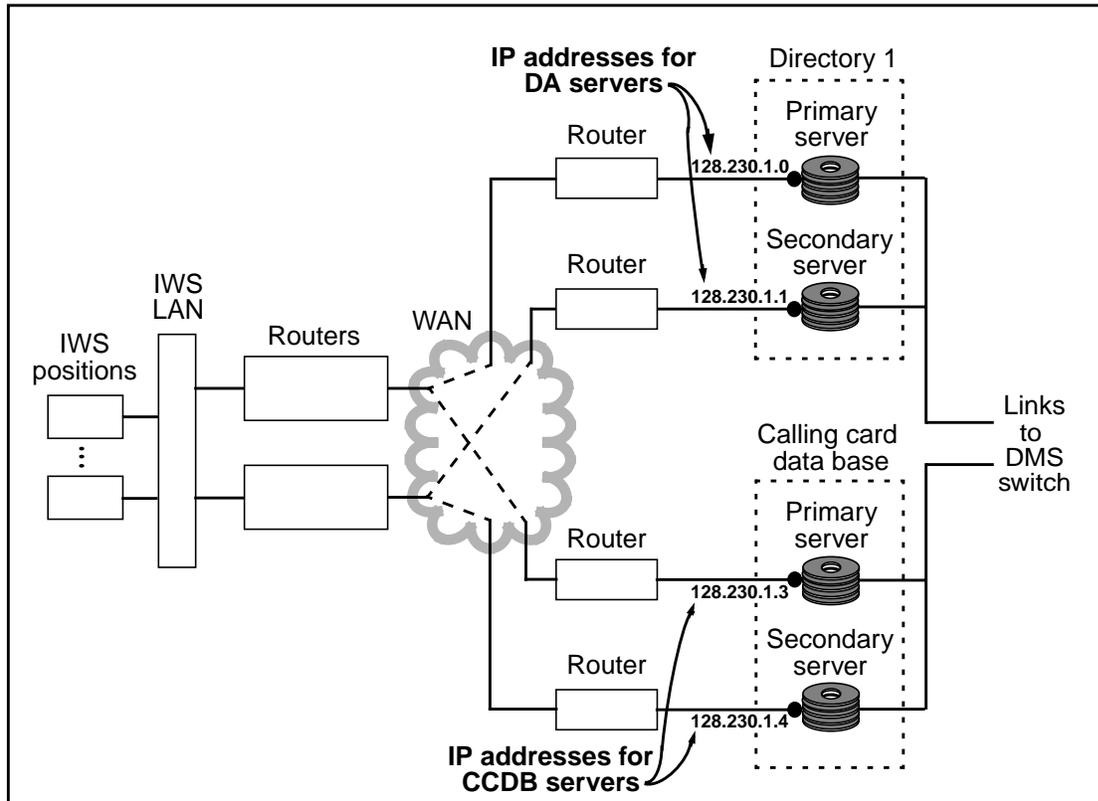

FIGURE 118. IP Addresses for External DA and CCDB Servers
- The Primary and Secondary IP Addresses specify the IP address to the DA and CCDB servers (see Figure 118). The valid range is 0 to 255.255.255.255.